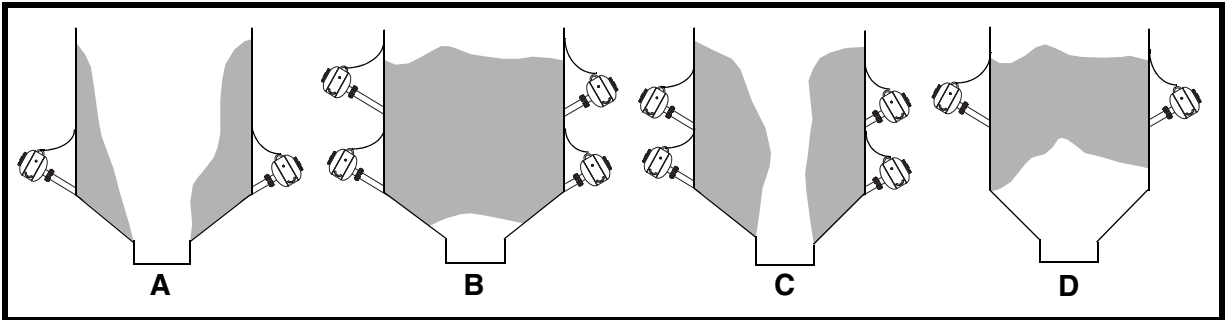

Figure 1. Restricted Material
The Martin® Typhoon Air Cannons are pneumatic, bulk material-moving systems that quickly release compressed air into a storage vessel to restore flow to material that is clinging (A), bridging (B), rat-holing (C), or arching (D) (see Figure 1). This manual provides instructions for installing cannons on steel structures only. For installations on other structures, call Martin Engineering or a representative.